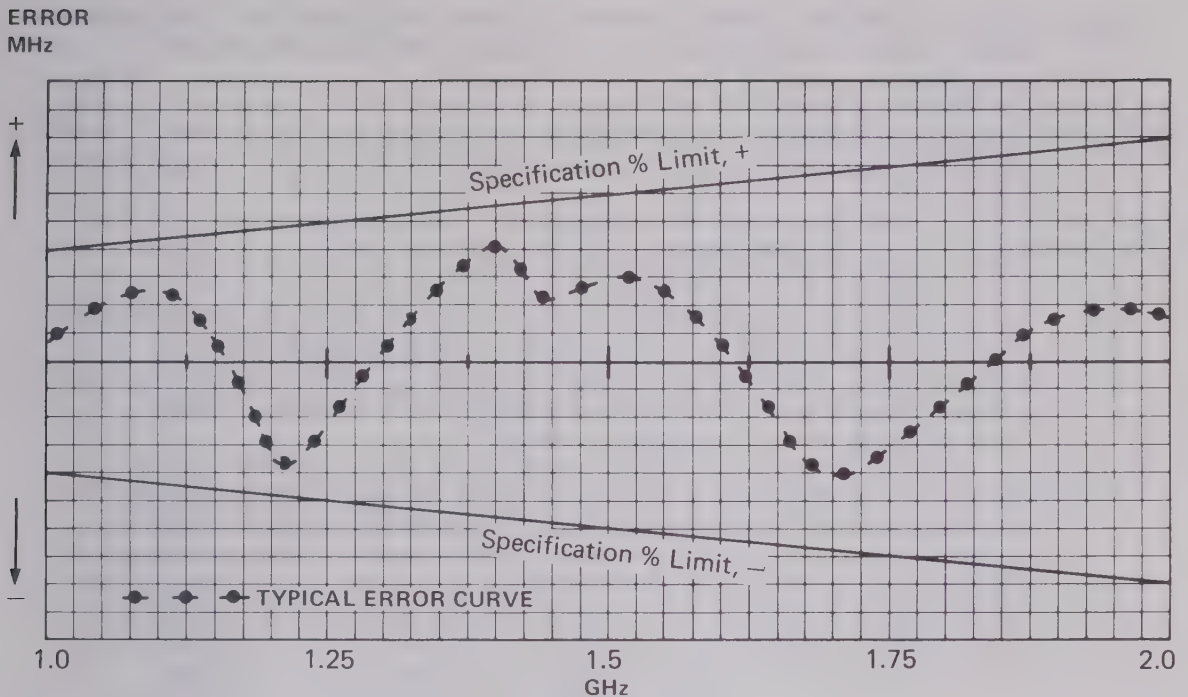

Fig. 16 Typical frequency error plot for varactor tuned r.f. unit
- (3) Allow the instrument to warm up for 30 minutes.
- (4) With the M1 indicator set at exactly the low calibrated limit (e.g. 1.00 GHz), tune the frequency meter until its frequency dip coincides with the M1 marker dip on the oscilloscope. Record the frequency error.
- (5) Prepare a graph of frequency error versus frequency (typical error curve shown in Fig. 16), by plotting the difference between the frequency meter reading and the M1 indicator setting at 50 MHz increments up to the high end of the band.
- (6) If the frequency error plot only slightly exceeds the specification limits, proceed to para.31. If the plot drastically exceeds the limits, proceed to para.32.